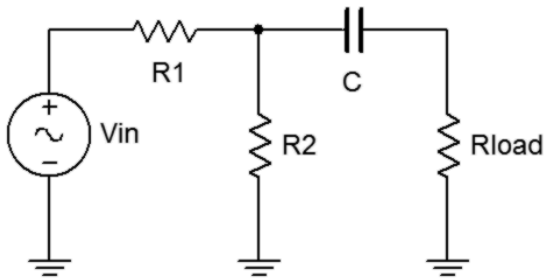

Figure 11.1
- For the circuit of figure 11.1, calculate the voltage across the 1 k Ω load using $R_1=1.5$ k Ω , $R_2=2.2$ k Ω , and $C=470$ nF, with a 2 V p-p 1 kHz source. Record this value in Table 11.1. Also calculate the expected Thevenin voltage and Thevenin impedance. Record these values in Table 11.2.
- Build the circuit of figure 11.1 using $R_1=1.5$ k Ω , $R_2=2.2$ k Ω , $R_{load}=1$ k Ω and $C=470$ nF. Set the generator to a 1 kHz sine wave at 2 V p-p. Make sure that the *Bandwidth Limit* of the oscilloscope is engaged. This will reduce the signal noise and make for more accurate readings. Measure the load voltage and record in Table 11.1 as V_{load} Original.